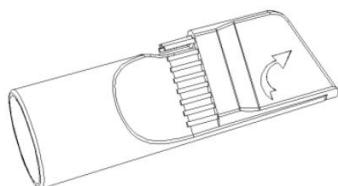

Fig.10
1. Fig.10 - you can use the two in one brush for cleaning in the corner.